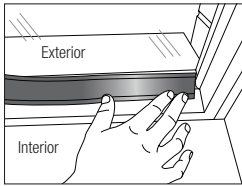

Figure 2
3. Position 3M Profile against the window and frame in one corner by hand in the approximate finished position. (Figure 2)